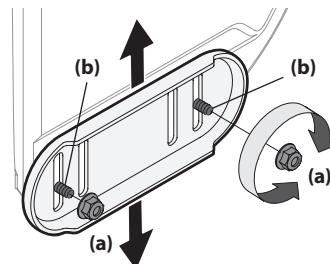

Figure 2-54
1. Loosen four hex nuts (a) (two on each side) and carriage bolts (b). Move skid shoes to desired position. See Figure 2-54.
**NOTE:** The skid shoes on your unit may look slightly different (and have different hardware) than ones shown in Figure 2-54.